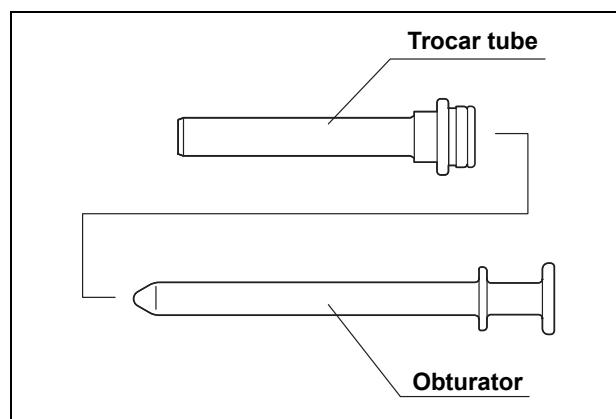

Figure 3.10
3. Confirm that the obturator passes smoothly through the trocar tube (see Figure 3.10).